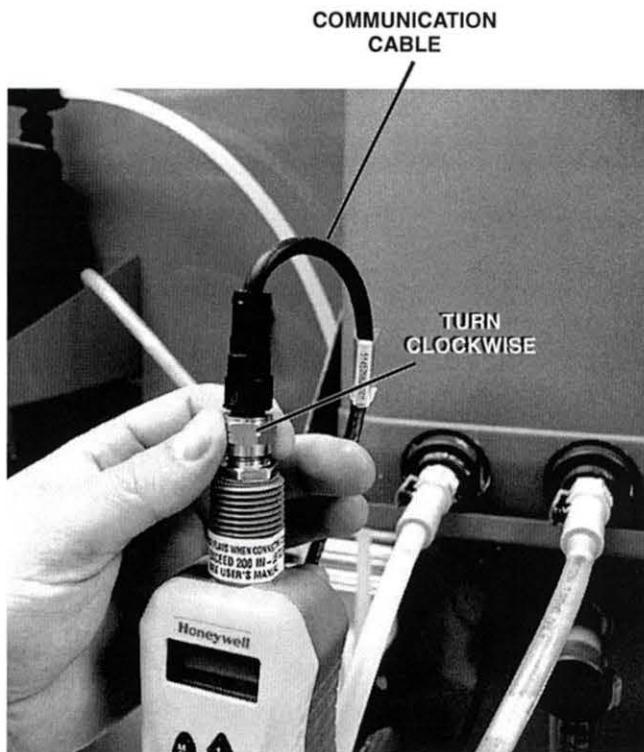

Figure 55. Communication Cable Connected to Indicating Transmitter
- 8. Locate the communication cable for the indicating transmitter and connect it to the port on top of the indicating transmitter, as shown in figure 55.